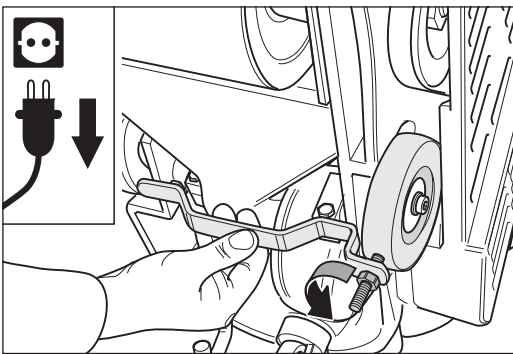

Fig. 81 Take the actual position of the adjustable wheel using the setting fixture (right-hand wheel seen from below).
- 5 For setting, first take the actual position of the adjustable wheel using the setting fixture (right-hand wheel seen from below). Position the fixture against the machine housing in such a way that it rests not only against the machine housing on both sides, but also at the adjustable wheel. If necessary, turn the threaded pin of the setting device. To do this, release the nut of the setting fixture (Fig. 81).